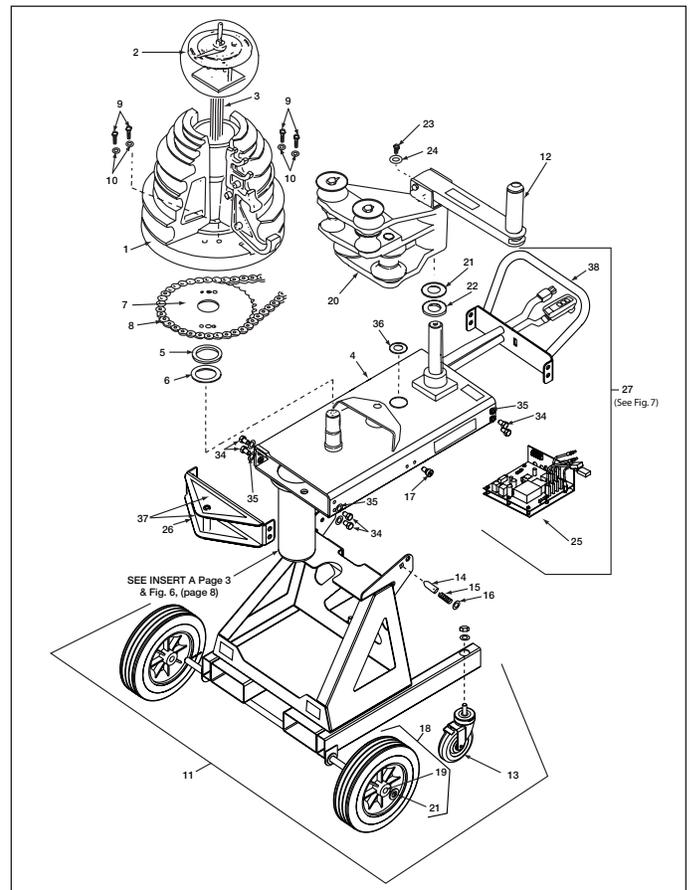

Figure 14. Bender Transportation
- a. Pull handle end of the bender to remove the preload applied on the locking pin of the bender (Figure 14, #14), and pull positioning pin.
- b. While pulling positioning pin, carefully raise the handle end of the bender until the sprocket housing (Figure 14, #4) locks in the horizontal position.
2. Unlock wheels (if locked) (Figure 14, #13), and use handle (Figure 14, #38) to push/pull bender to the desired location.
- a. Pull handle end of the bender to remove the preload applied on the positioning pin of the bender (Figure 14, #14), and pull locking pin.
2. Confirm that the Roller Housing (Figure 14, #20) and Upper Roller (Figure 14, #12) are in place and locked.
3. Loop the nylon sling through the End Plate Lift Hook (Figure 14, #26). DO NOT HOIST BENDER USING THE HANDLE (Figure 14, #38).